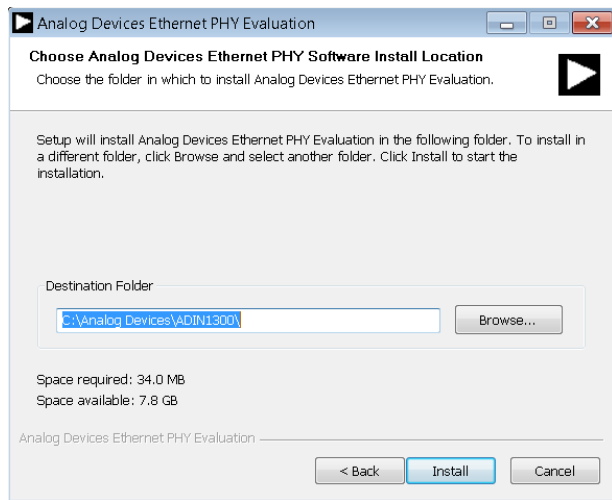

Figure 11. Installation Location
6. Select a location to install the Ethernet PHY software and then click **Install** (see Figure 11).